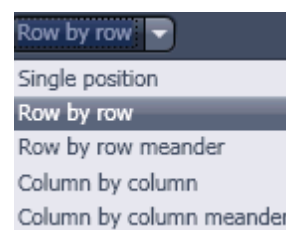

Fig. 9-43 Working direction drop down menu
- Select the working direction from the **Working Direction** pull down menu (Fig. 9-43).